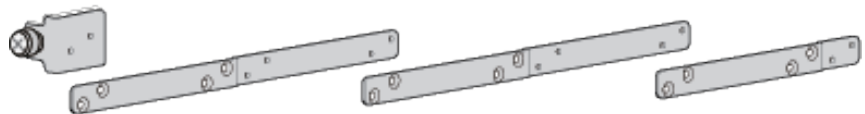

Figure 114. Extension Bracket Configurations
You adjust the lengths of the brackets by connecting them in different combinations. There are seven possible configurations. Refer to Figure 114. The default configuration is number 5. To adjust the extension brackets, perform the following procedure:
1. Review Figure 114 to find the bracket length that most closely matches the measurement taken in step 3 in the previous procedure.